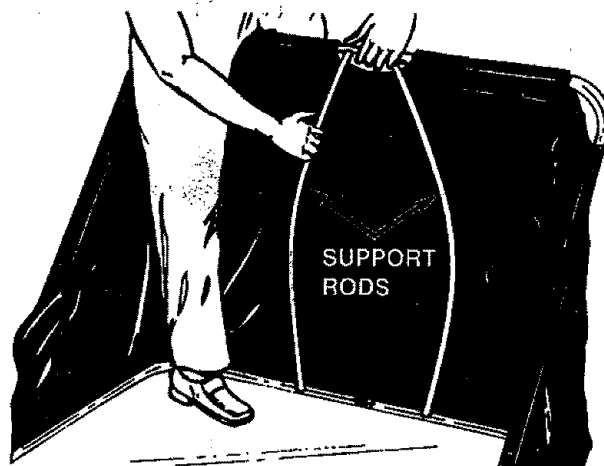

FIGURE 16
- Assemble the two hopper support rods as shown in figure 16. Place end of rod into hole in upper hopper tube and bend rod just enough to fit bottom end of rod into hole in bottom hopper tube.